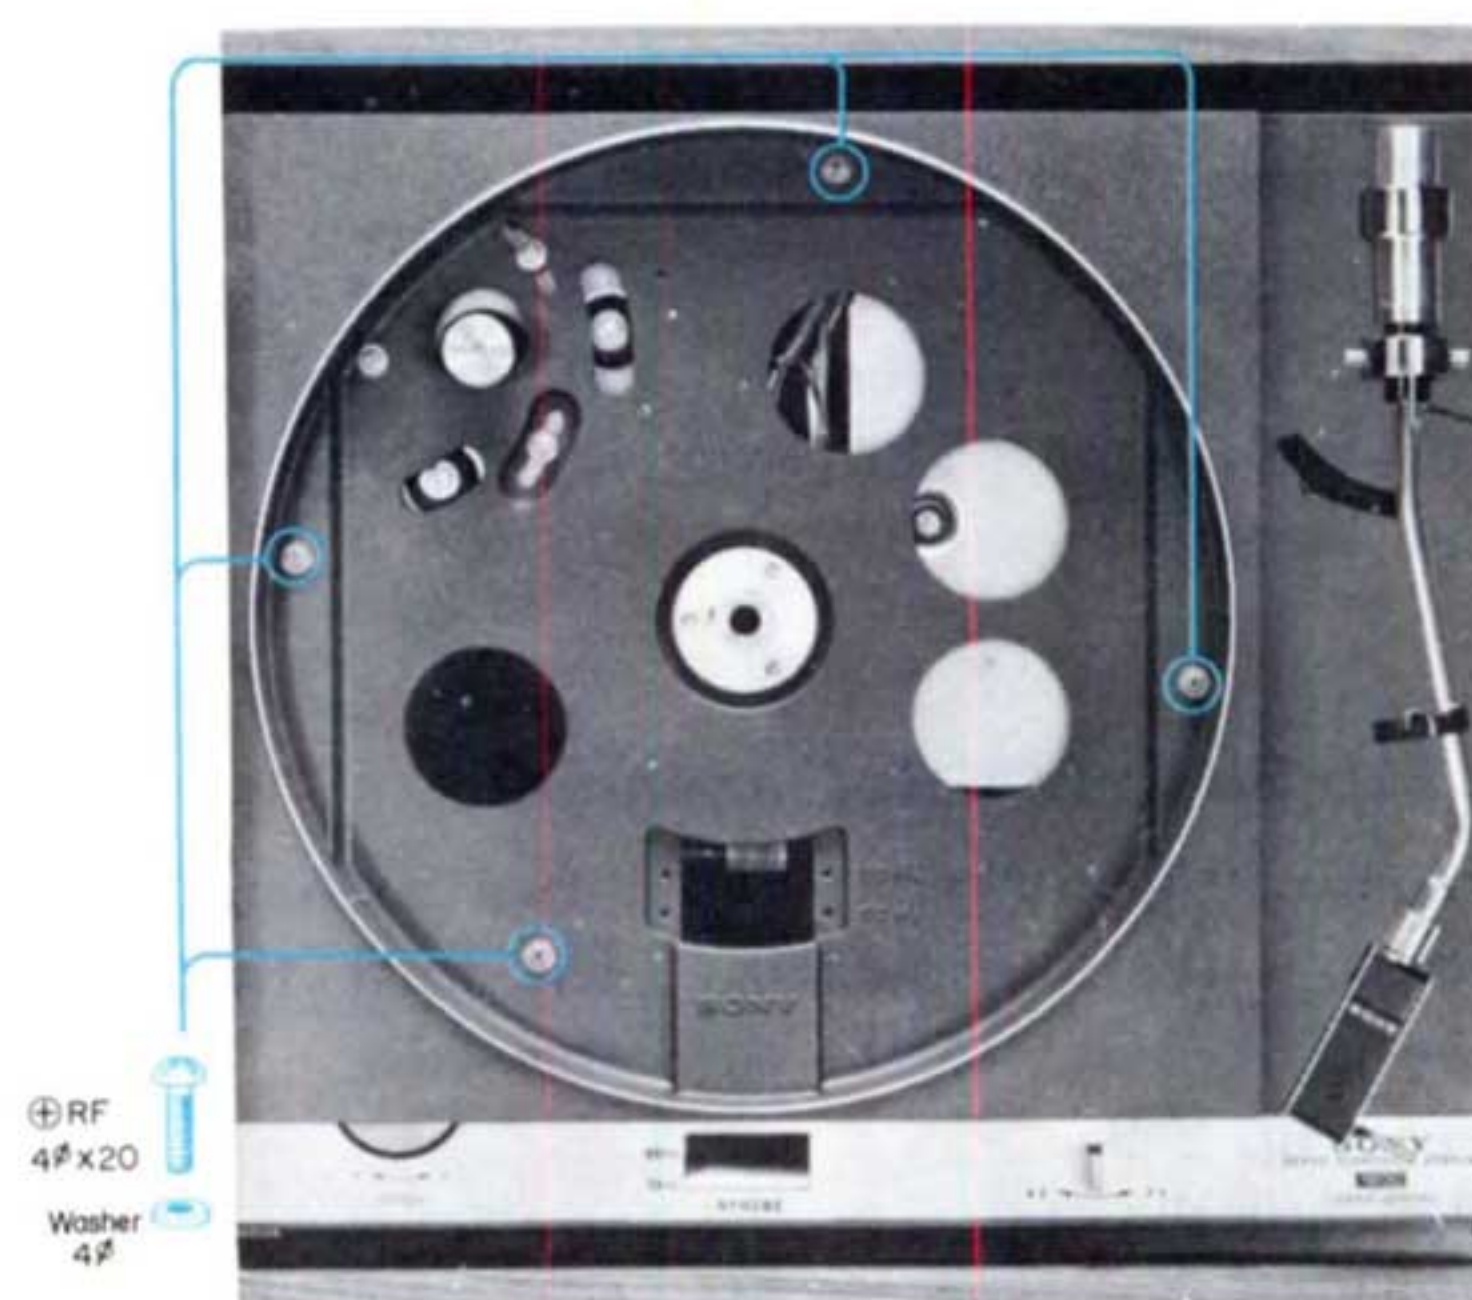

Fig. 2-6 Transit Screw for Turntable Base
3. Remove the four transit screws (+RF 4 ϕ \times 20) from the turntable base as shown in Fig. 2-6 if they have not yet been removed.